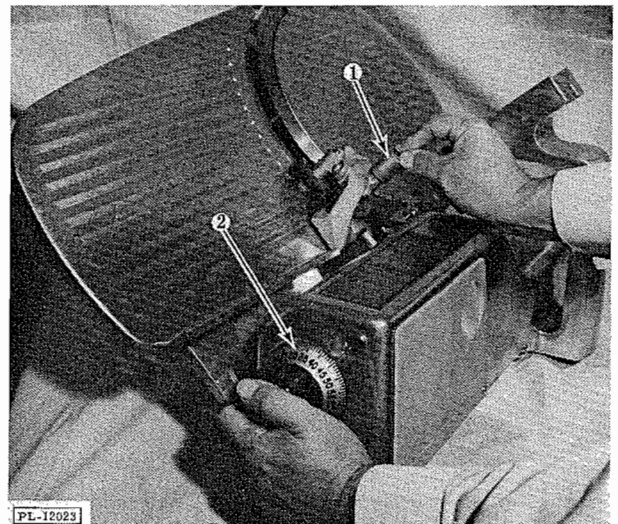

Fig. 4
6.6 Turn the slice adjusting knob (2, Fig. 4) slowly to the right. This will bring the grinding wheel in contact with the beveled side of the knife and start the sharpening wheel rotating.
6.8 As soon as burr appears, depress truing wheel by pressing on plunger (1, Fig. 4) with right hand as shown. Grind and true simultaneously for approximately 3 seconds.